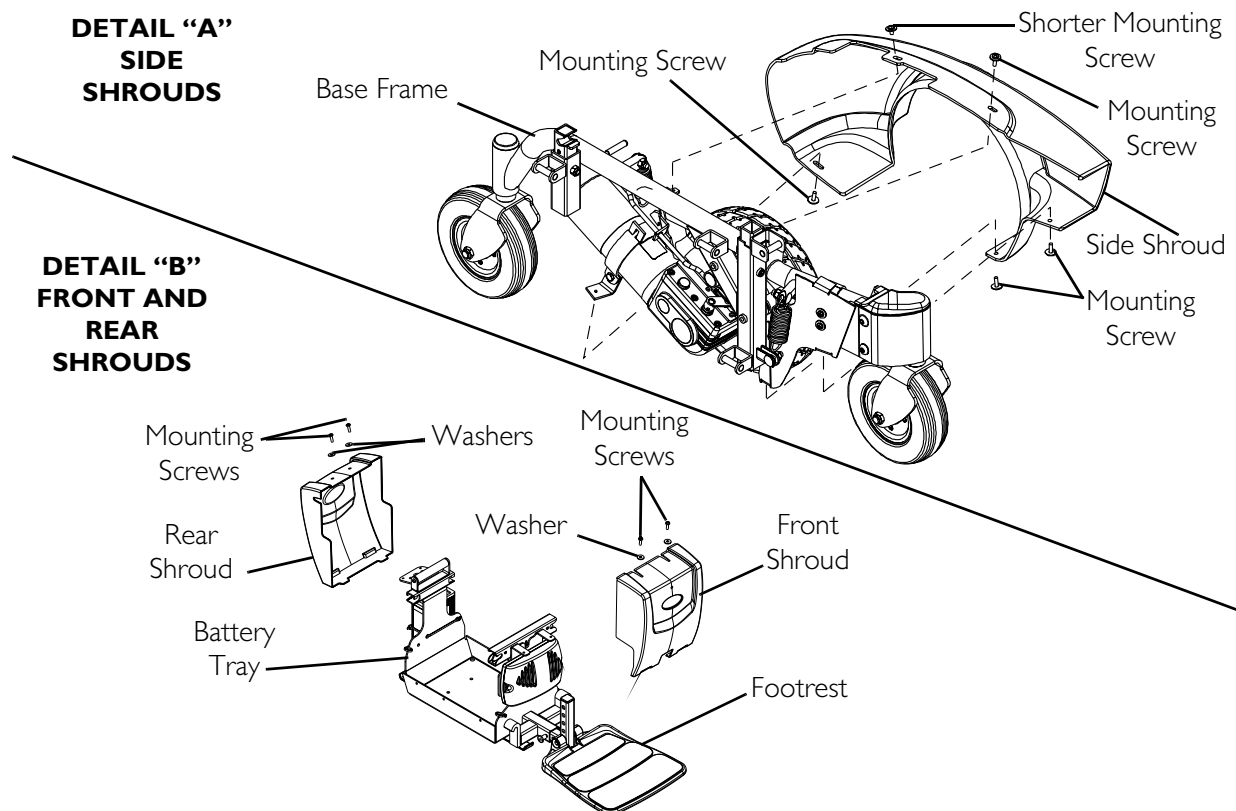

FIGURE 16.1 Removing/Installing the Shrouds
NOTE: For this procedure, refer to FIGURE 16.1 on page 52.
NOTE: The shorter mounting screws are used to secure the top rear of side shrouds. Refer to DETAIL "A" in FIGURE 16.1.
- B. Front Shroud - Remove the two mounting screws that secure the front shroud to the base frame. Refer to DETAIL "B" in FIGURE 16.1.
- C. Rear Shroud - Remove the two mounting screws that secure the rear shroud to the base frame. Refer to DETAIL "B" in FIGURE 16.1.
- NOTE: The shorter mounting screws are used to secure the top rear of side shrouds. Refer to DETAIL "A" in FIGURE 16.1.*
- B. Front Shroud - Secure the front shroud to the base frame with two mounting screws. Refer to DETAIL "B" in FIGURE 16.1.
- C. Rear Shroud - Secure the rear shroud to the base frame with two mounting screws. Refer to DETAIL "B" in FIGURE 16.1.